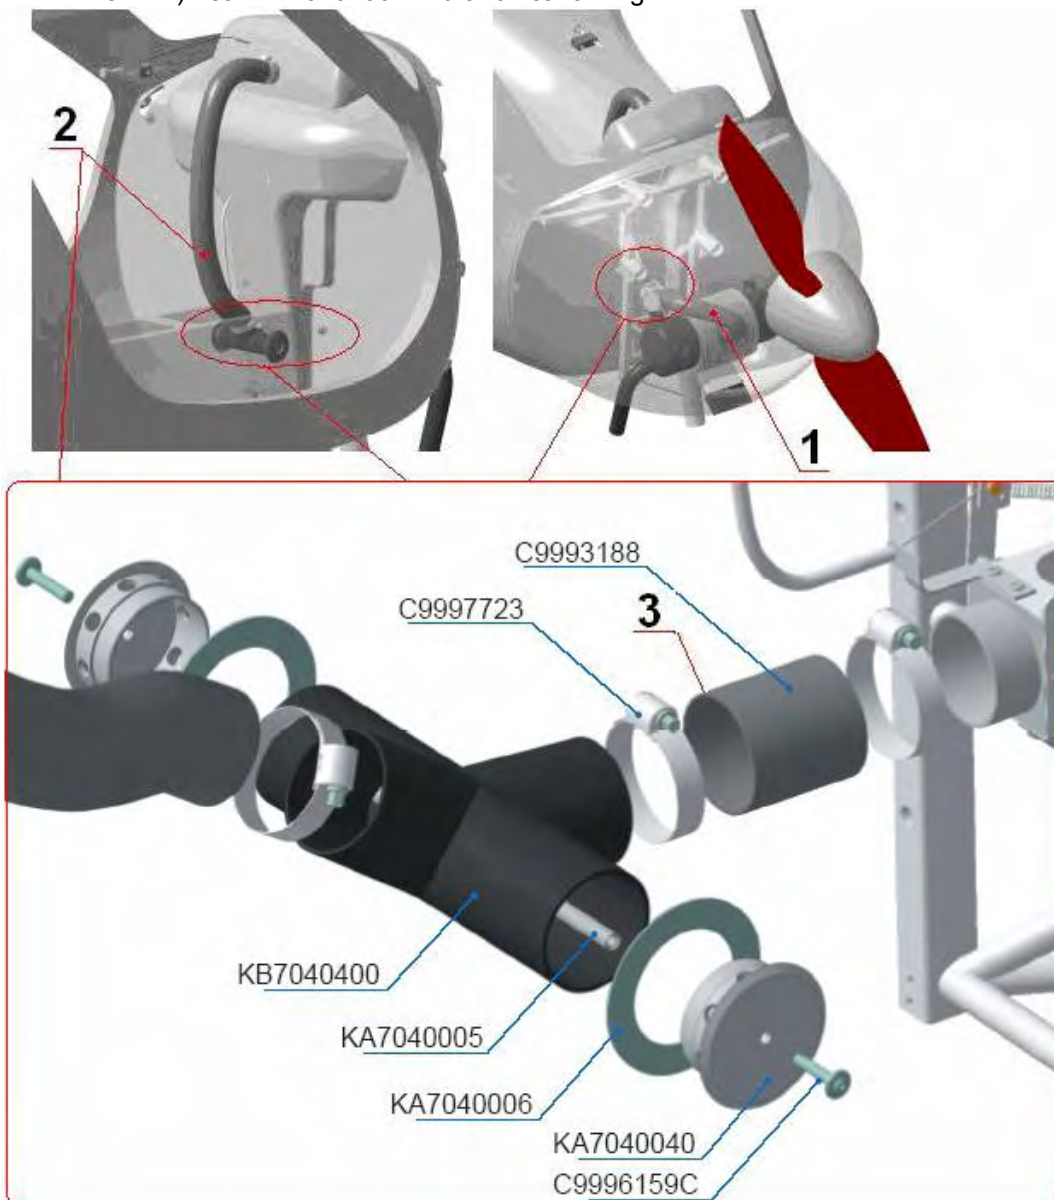

Fig. 7
- d. Proceed to item 4.
engine compartment (1), long piece in the cabin (under the instrument board) (2), and the short piece (3) between the Cabin heater choke KA7040200 and KB7040400 Air branch canal (Fig. 7). If no damages are found, proceed to item 8, otherwise replace the damaged hose as follows.
- Unscrew the bolt by a cross-screwdriver or wrench with header 7 and release the clamp C9997723 Clamp 40-60 that secures the hose C9993188 (AERODUCT tube CEET-7 1-3/4 ID) near KB7040400 Air branch canal. Fig. 7.
- Disconnect KA7040002 (Tap) from KB7040400 (Air branch canal). Fig. 7
- Unscrew the bolt with a cross-screwdriver or wrench with header 7 and release the clamp C9997723 Clamp 40-60 that secures the hose C9993188 (AERODUCT tube CEET-7 1-3/4 ID) near the Cabin heater choke KA7040200 Fig. 7.